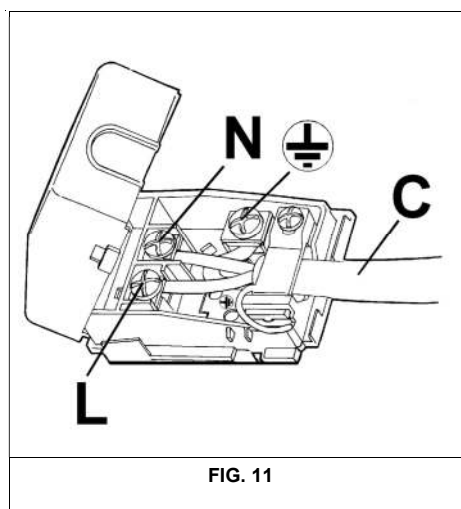

FIG. 11
- Install an electrical plug adequate for the load indicated on the label, on the power cable C, if such a plug is not installed on the cable (see Fig. 11).
- Connect cables according to the diagram in Fig. 11. Make sure that they meet the following requirements: